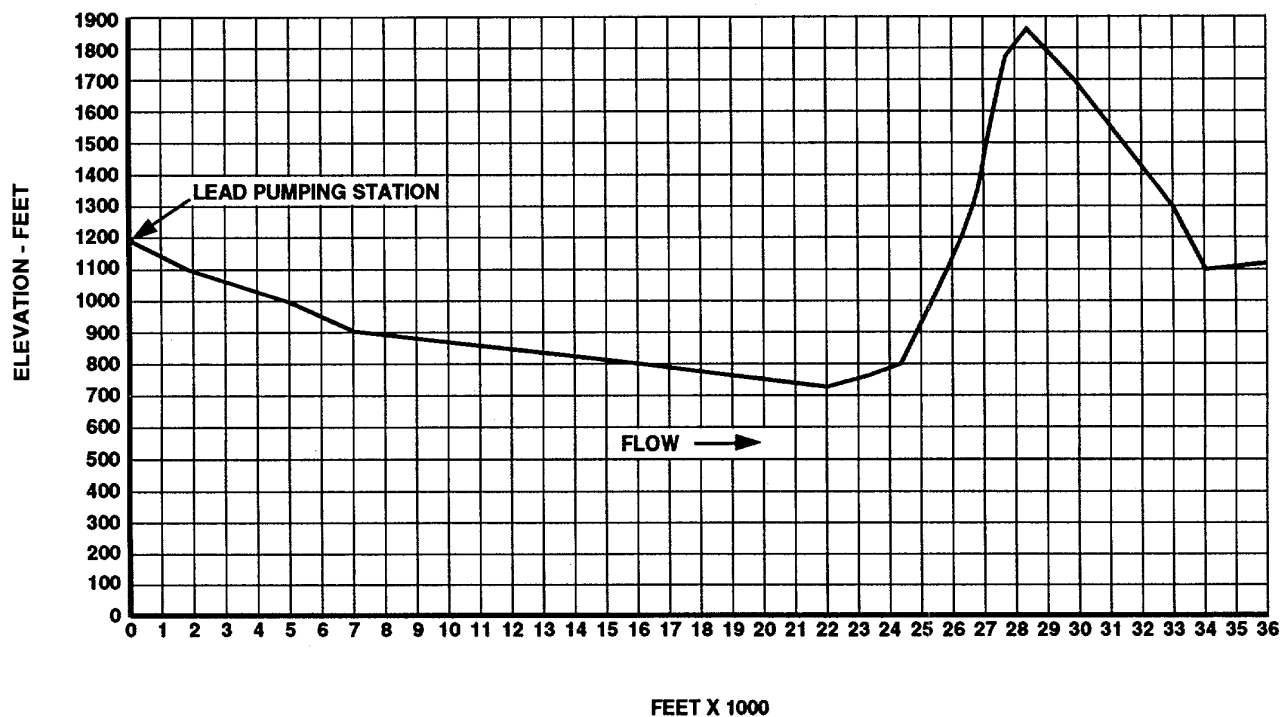

Figure 2-8. Ground Profile.
- a. Divide horizontal base of ground profile graph, Figure 2-8, into spaces that represent uniform distances, such as 1,000 foot intervals. However, any suitable scale can be used. The ground profile base represents the horizontal distance the hoseline will cross.